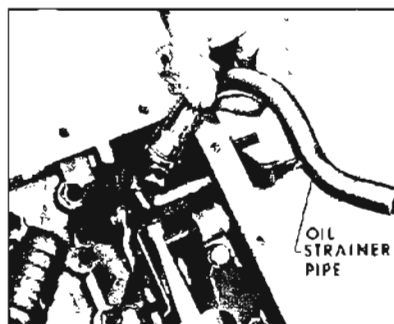

Figure 5-353
13. Install strainer pipe to transmission case. See Figure 5-353.